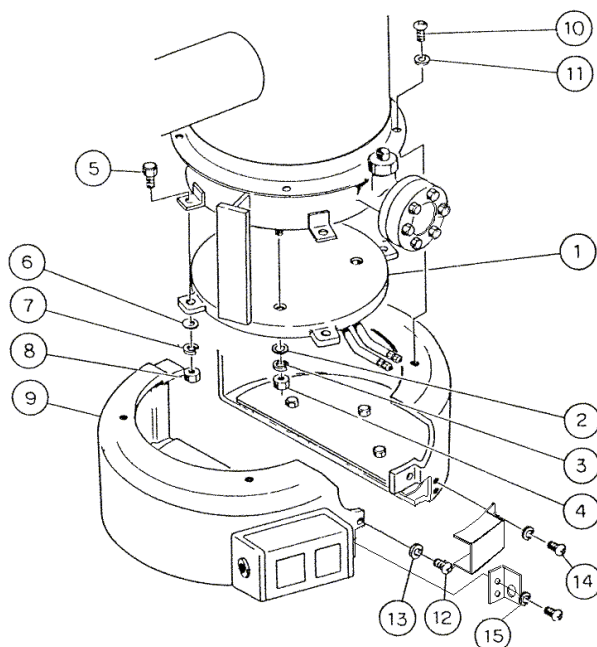

Figure 15: Removal of heater of ULK-10A, ULK-14A
See Figs. 15, 16.
(2) Figure 15
(3) Figure 15
(1) Figure 15